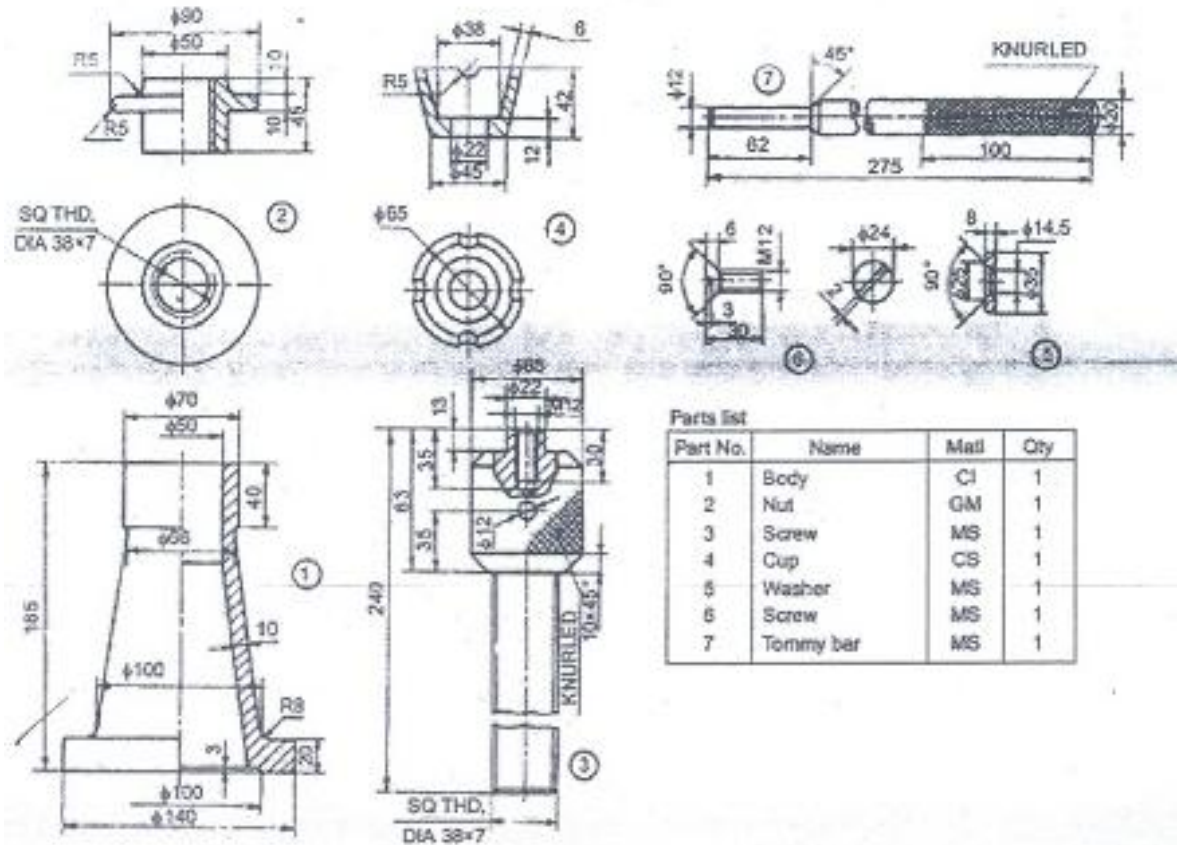

Figure 2
6. Assemble all the components shown in figure 2, to form screw jack assembly and draw